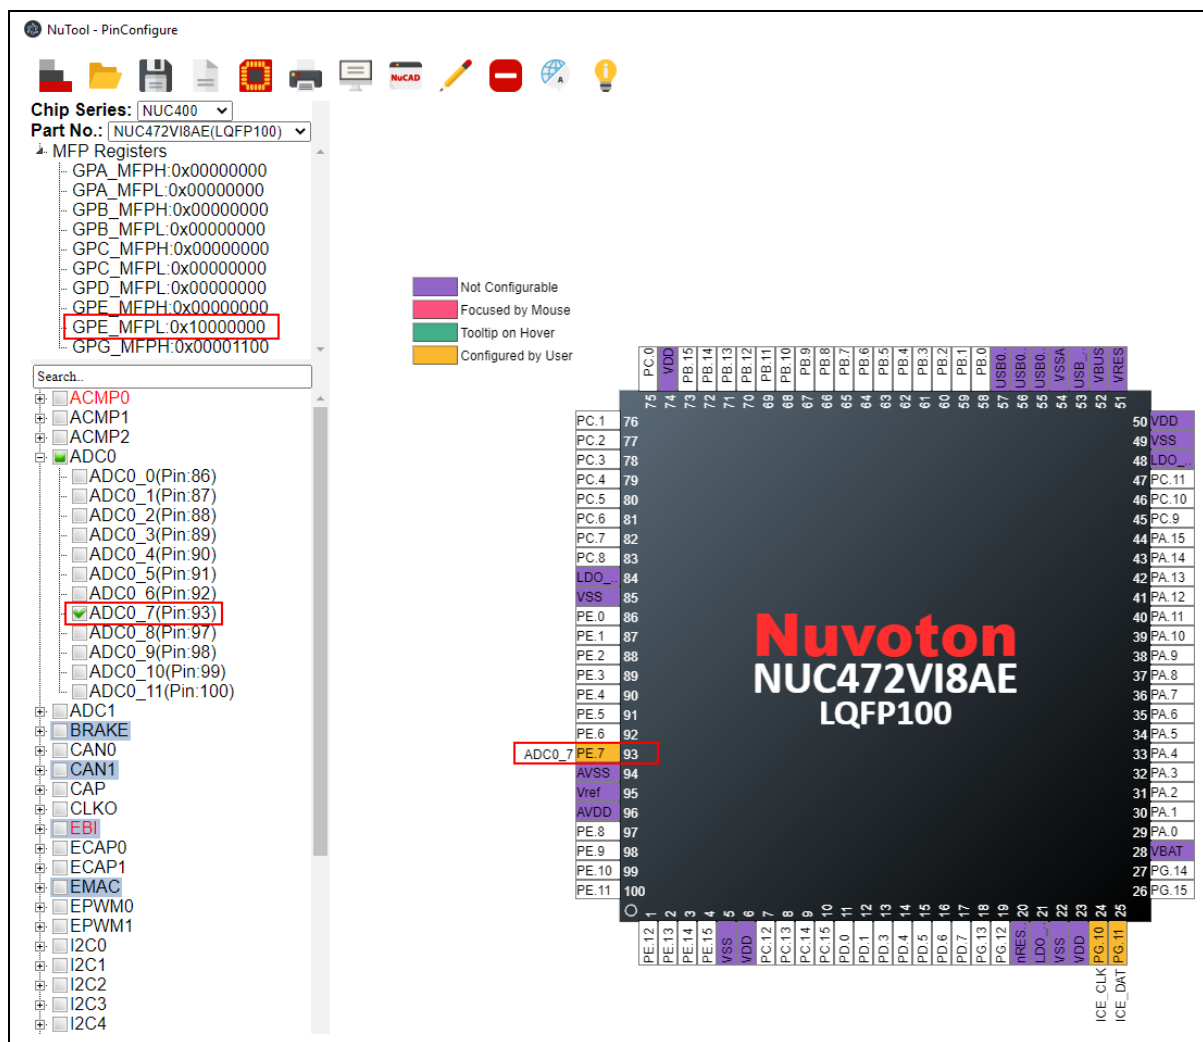

Figure 4-12 Results of Configuring ADC0_7 by the Individual Pin
2. Move the mouse cursor into the list and select the expected GPIO function and click on it. Configuring by the individual pin is accomplished. At the same time, the TreeView and the value of the MFP register will be updated correspondingly (referring to Figure 4-12).